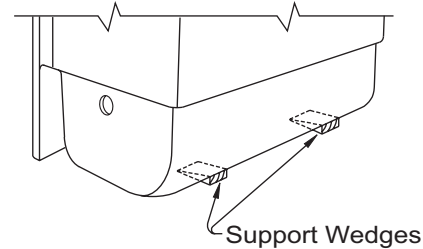

Figure 4
7. Place shims under the unit after it is put into place and as it is being leveled. Apply an adhesive to the bottom of each shim to permanently secure into place. To ensure proper fit, support and a solid base, a minimum of two shims must be used on each unit. **See Figure 4** for additional details.